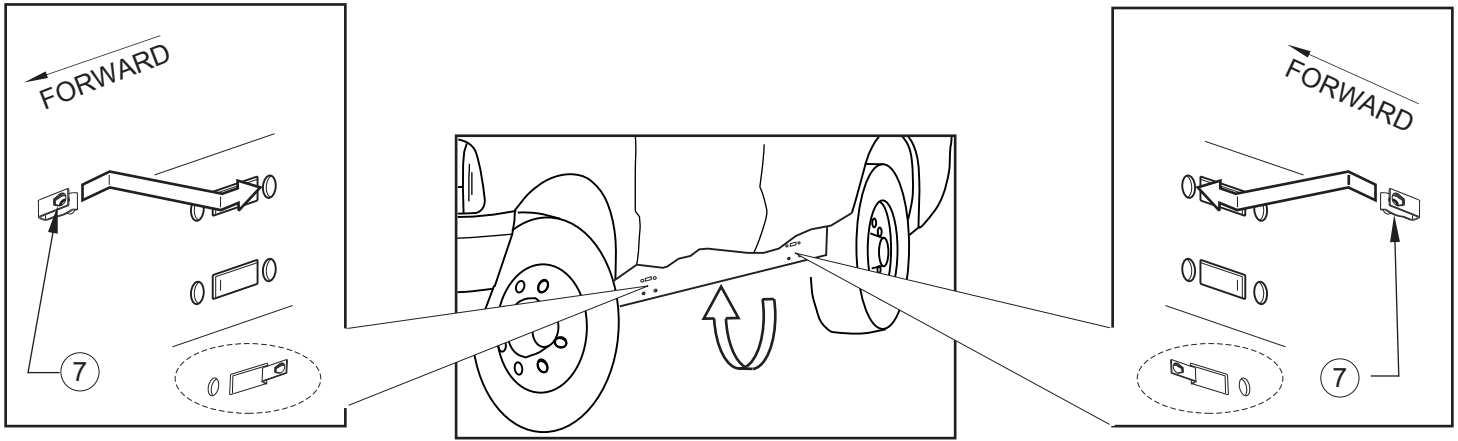

FIGURE 1 (DRIVER SIDE SHOWN)
- STEP 2. Install extruded u-nuts as shown. SEE FIGURE 1.